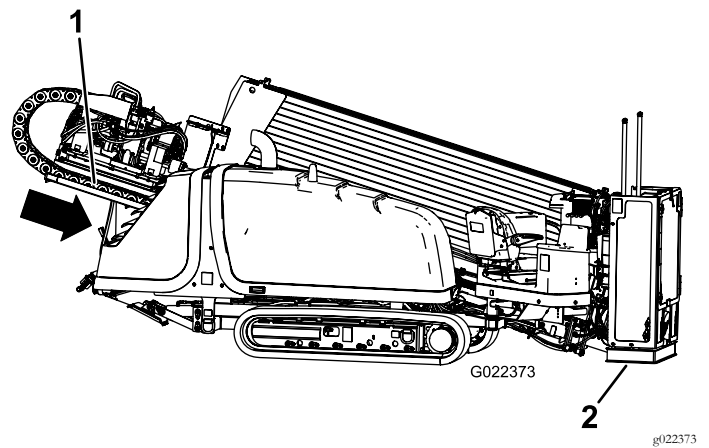

Figure 23
6. Lower the thrust frame, tilting the drill frame until the plate contacts the ground (Figure 23).